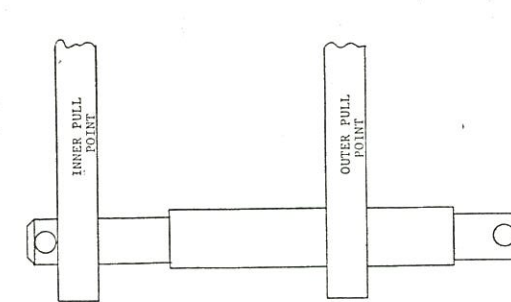
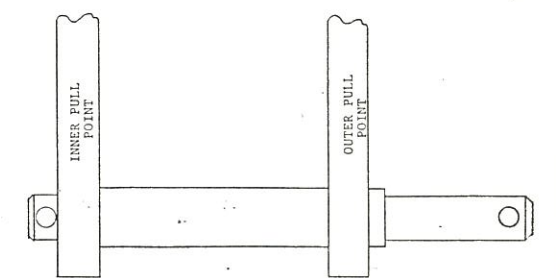

FIGURE 1
FIGURE 2
**HITCH:** AMCO V-Plows are designed to accept ASAE Category II and III three-point hitches and quick couplers. The lower hitch pins may be inserted into the lower pull points as shown in Figure 1 and 2. Figure 1 illustrates the lower hitch pin arrangement for use with Category II three-point-hitches. Figure 2 illustrates the lower hitch pin arrangement for use with Category III three-point hitches and Category II and III quick couplers. The lower hole in the mast is used on Category II hitches and the upper hole is used on Category III hitches. A bushing is supplied for use on the upper hitch pin.